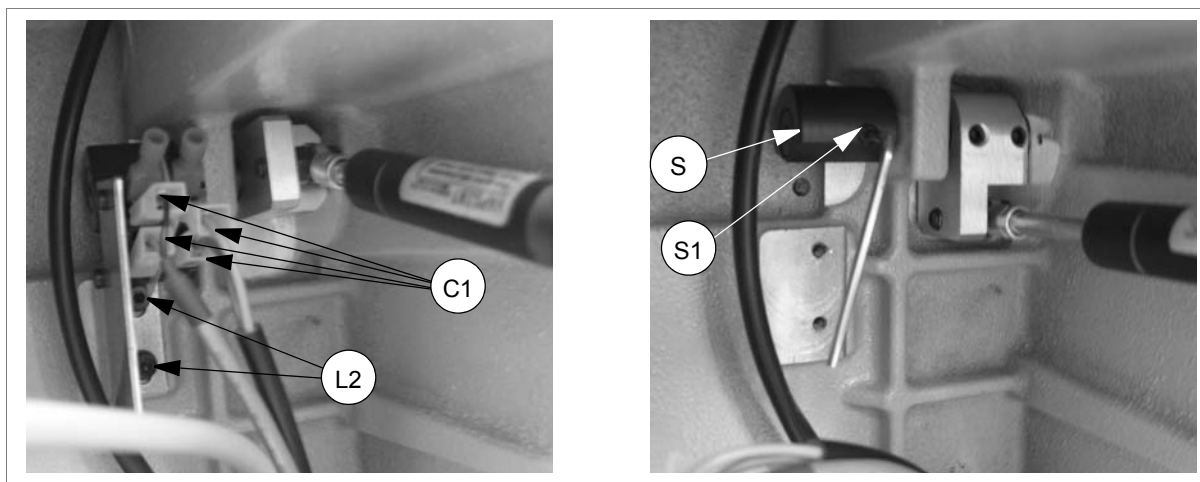

Fig. 83
- 2) check the connecting wires on the two microswitches (C1 - fig. 83).
**If this is not so, check that the cam (S) causes the two microswitches to click. If necessary, regulate the cam as follows:**
- 4) loosen the two screws (L2) and remove the microswitch plate; lower the protective shield (V).
- 5) use the 2,5mm (0.0983") T wrench to loosen the grub screw (S1 - fig. 83).
- 6) turn the cam (S) until the microswitches click, with the microswitch plate installed.
- 2) loosen the two screws (L2) and remove the microswitch plate (fig. 83).
- 3) disconnect the wiring between the two microswitches (C1) (fig. 83).